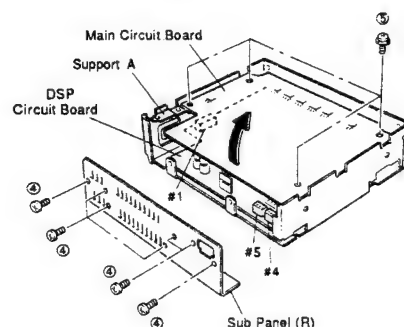

Fig. 2
- a. Remove 7 screws (④) in Fig. 2 and then remove the Sub Panel (R).
- b. Remove 4 screws (⑤) in Fig. 2 and then remove the Main Circuit Board.